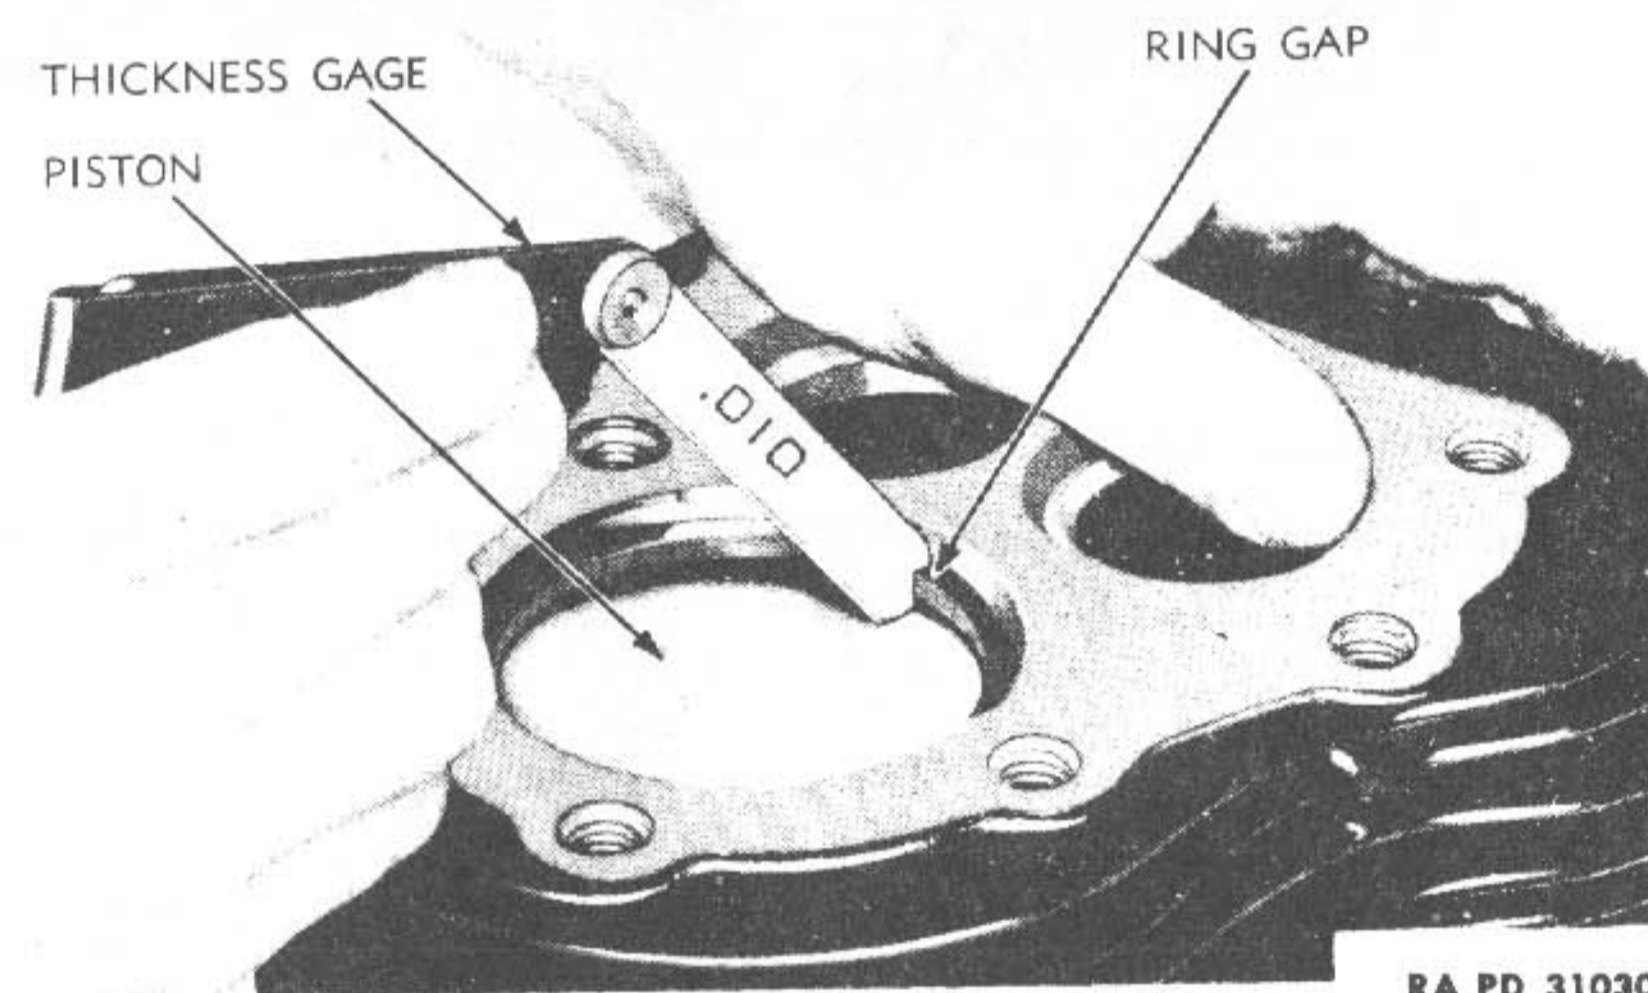

Figure 16—Measuring Piston Ring Gaps
(1) To inspect ring gap, place a piston in cylinder with bottom end of piston about $\frac{1}{2}$ inch from end of cylinder (fig. 16). Set the ring to be inspected inside the cylinder and squarely against the piston. Use a set of thickness gages and determine the ring gap. Normal ring gap is 0.010 to 0.020 inch. Even though the ring gap may be slightly greater than these limits, only standard size piston rings should be used in the cylinder unless the cylinder has been reground.
(2) If cylinder has been reground, lapped or honed oversize, then use the correct oversize rings, fitting rings to give gap clearance of 0.010 to 0.020 inch. If gap at ring ends is less than 0.010 inch, ring ends may butt together under expansion and rings may be scored or broken. Gap may be increased by filing the ring ends with a fine-cut flat file.